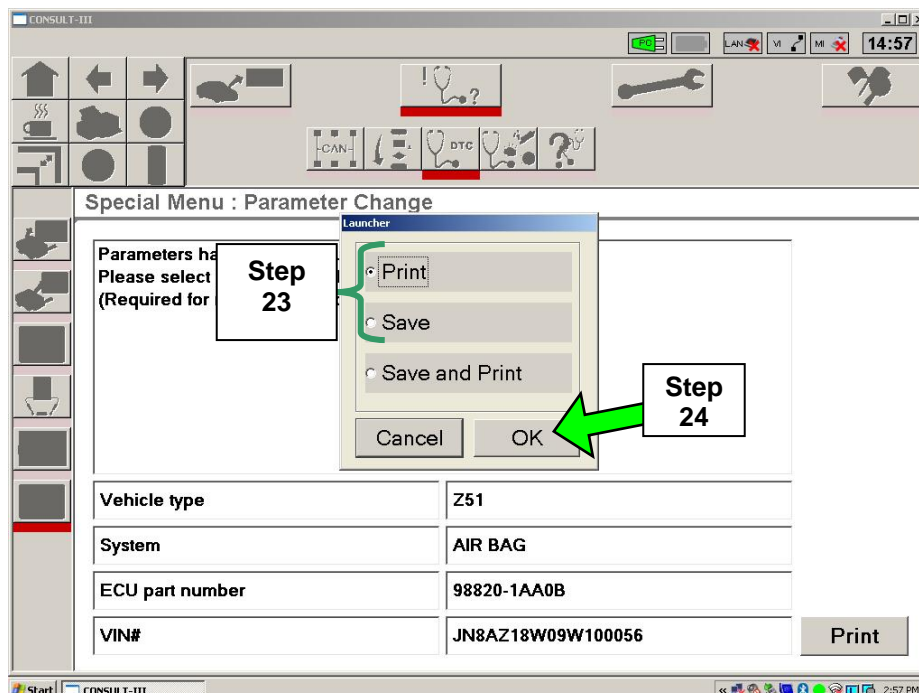

Figure 11
23. Select **Print** (see Figure 11).